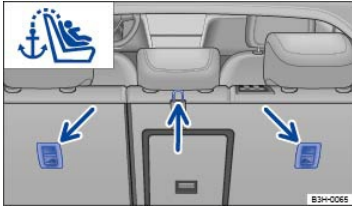

Fig. 76 Anchorages for the top tether strap on the back of the rear seat.
- Locate the tether anchor behind the rear seat backrest ⇒ *Fig. 76*.
- Attach the tether strap anchorage hook into the opening of the tether anchorage ⇒ *Fig. 76*.